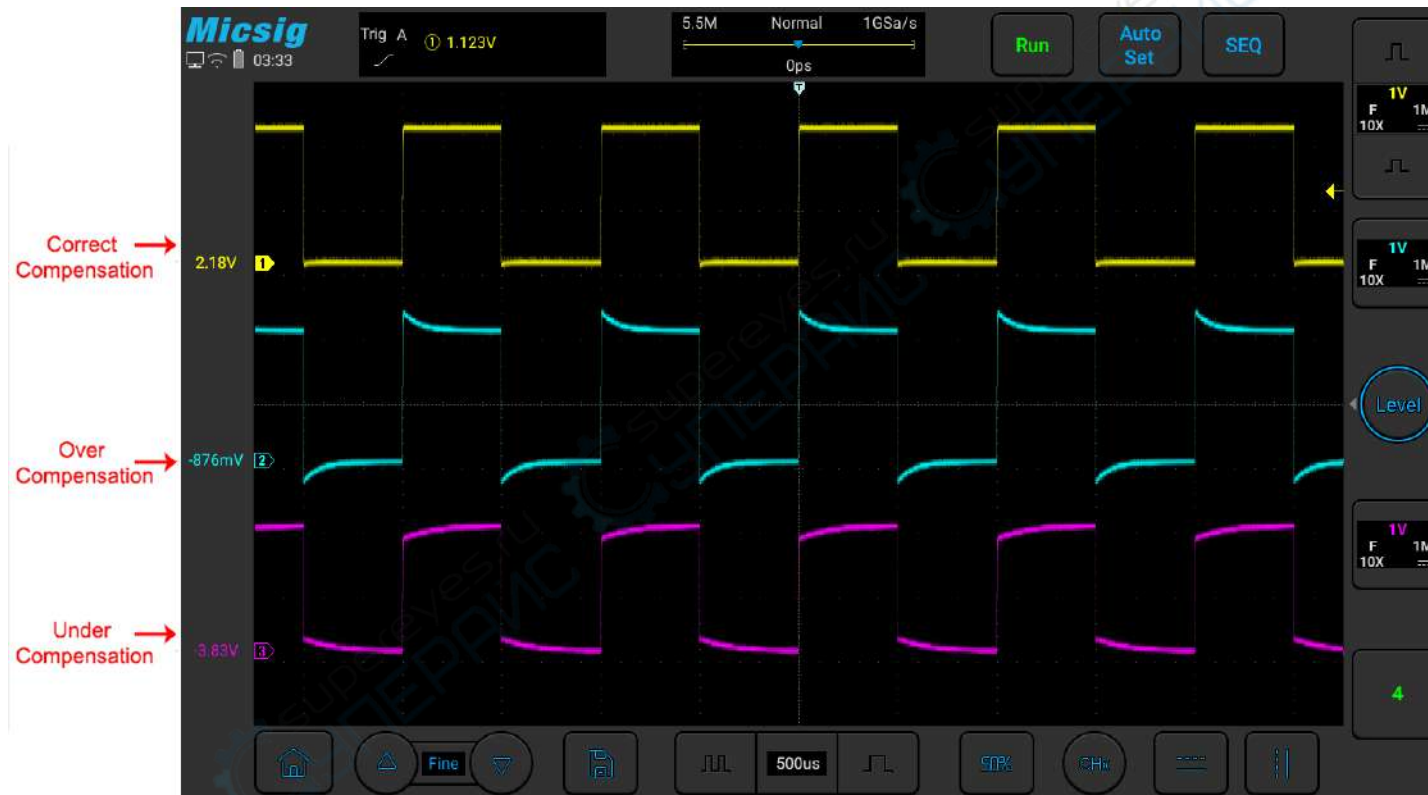

Figure 2-15 Probe Compensation
- 5) Tap **Auto Set** button or manually adjust the waveform vertical sensitivity and horizontal time base. Observe the shape of the waveform, see Figure 2-15.